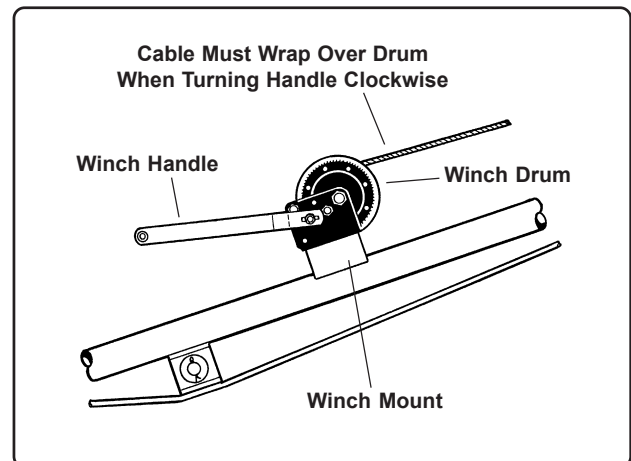

Fig. 13
3. Position the winch assembly onto the mounting plate so the winch drum is facing towards the hitch end of the auger (See Fig. 13).